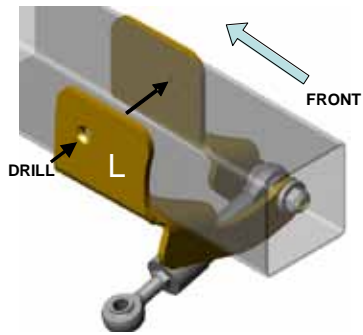

Figure 75
- From left to right side, drill hole through frame as shown. Figure 75